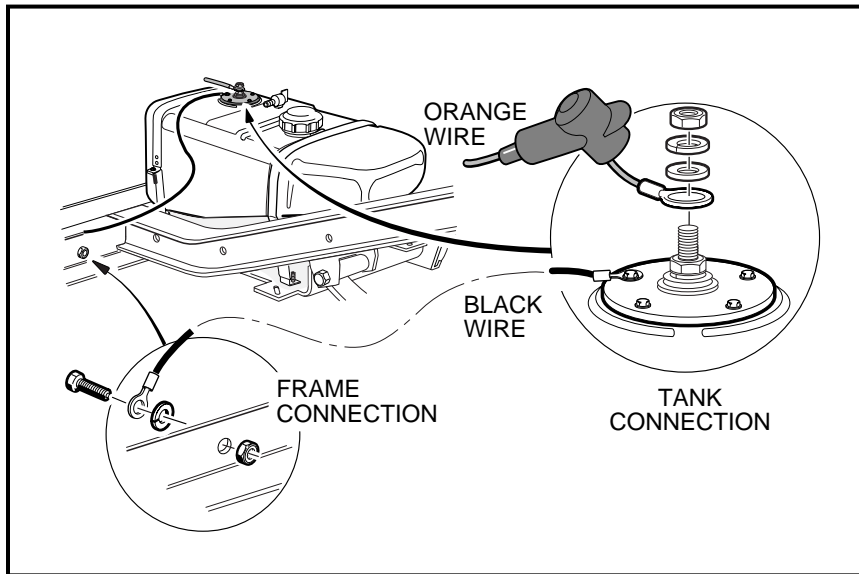

Figure 14-19 Fuel Level Sending Unit
11. Disconnect the black wire and orange wire from the fuel level sending unit on the tank (**Figure 14-19, Page 14-26**). Do NOT remove the lower nut on the center stud of the sending unit. **See following WARNING.**
- Connect the black wire from the fuel gauge to one of the fuel level sending unit screws. Connect the orange wire to the center stud (**Figure 14-19, Page 14-26**) and install the flat washer, lock washer and nut. Tighten to 18 in-lb (2.0 N·m).
- Slide the rubber boot over the stud (**Figure 14-19, Page 14-26**).